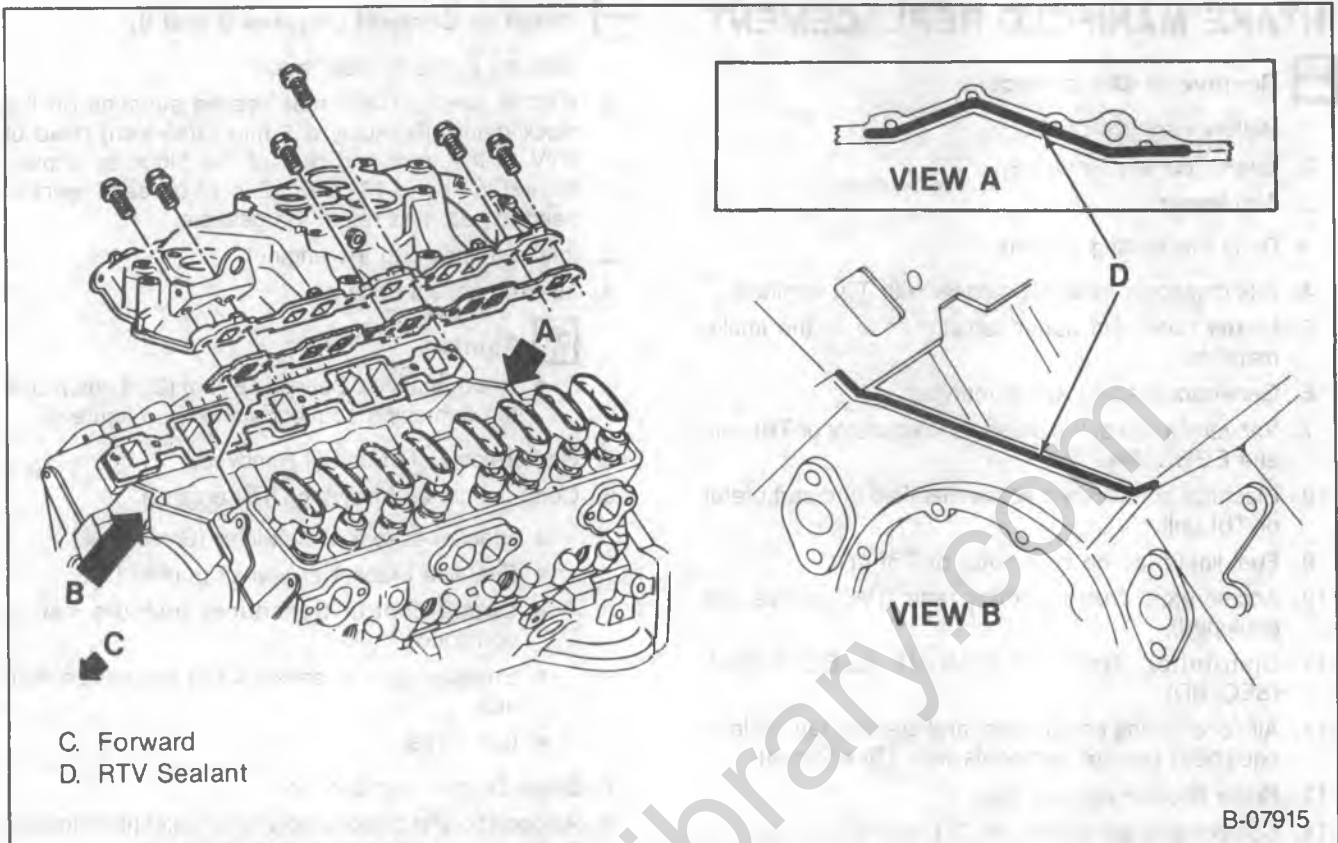

Figure 8 — Intake Manifold
**Install or Connect (Figures 8 and 9)**
2. RTV to the front and rear sealing surfaces on the block (figure 8). Apply a 5 mm (3/16-inch) bead of RTV to the front and rear of the block as shown. Extend the bead 13 mm (1/2-inch) up each cylinder head to seal and retain the gaskets.